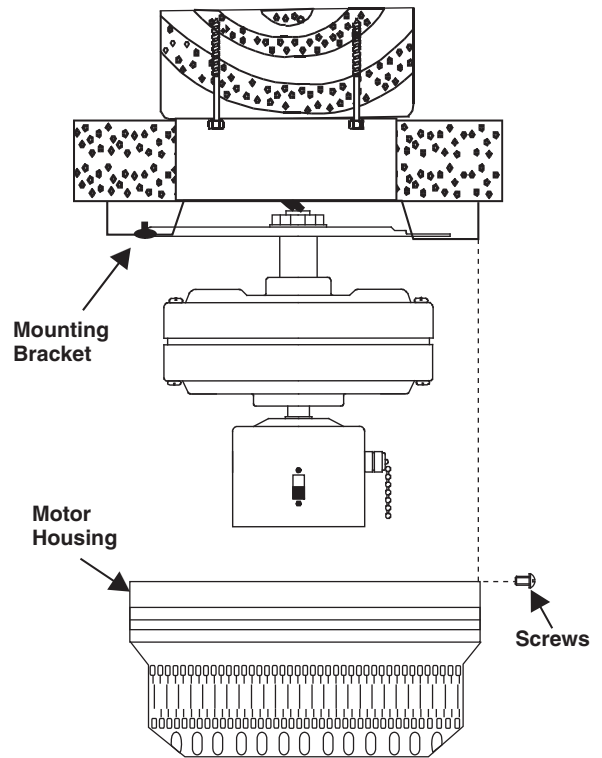

Figure 10
- 2. Carefully lift the motor housing onto the mounting bracket, properly align the holes and tighten the motor housing with the 3 screws supplied. (Fig. 10)